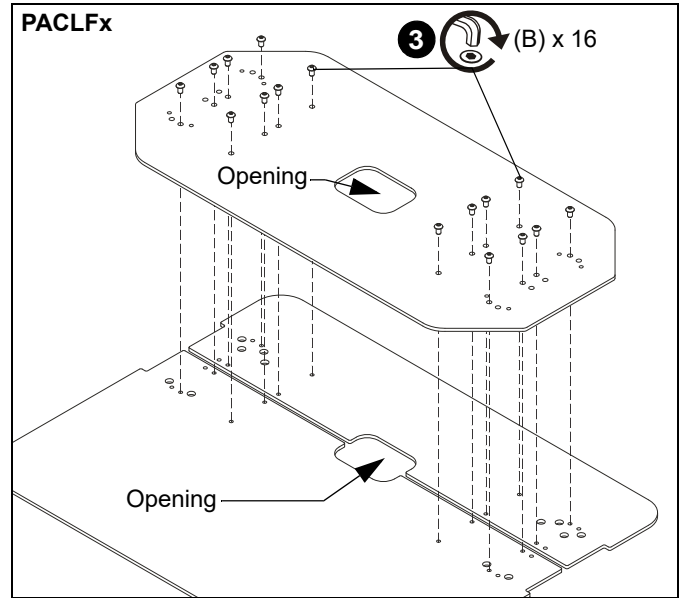
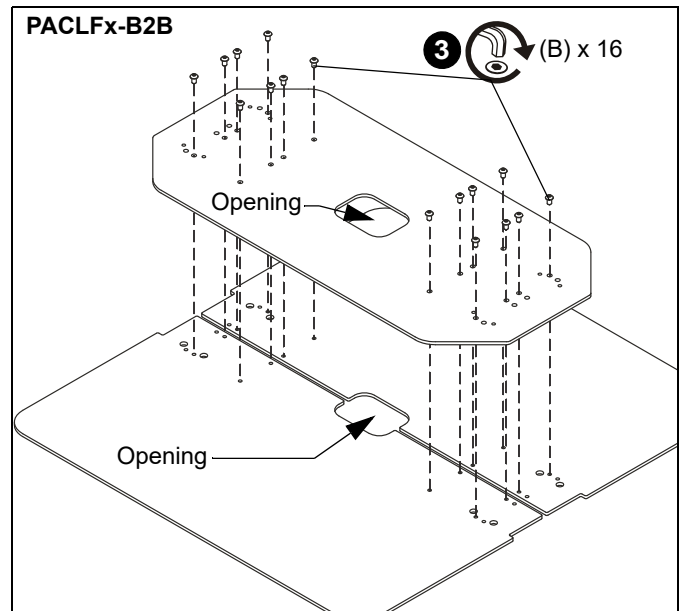

Figure 2
Figure 3
1. Place rectangular pieces of base on floor, lining up opening area on each piece. (See Figure 2) and (See Figure 3)
2. Lower remaining section of base onto two rectangular sections, lining up screw holes and opening as shown. (See Figure 2) and (See Figure 3)
3. Insert sixteen 5/16 x 1/2" button head screws (B) into highlighted holes and tighten.